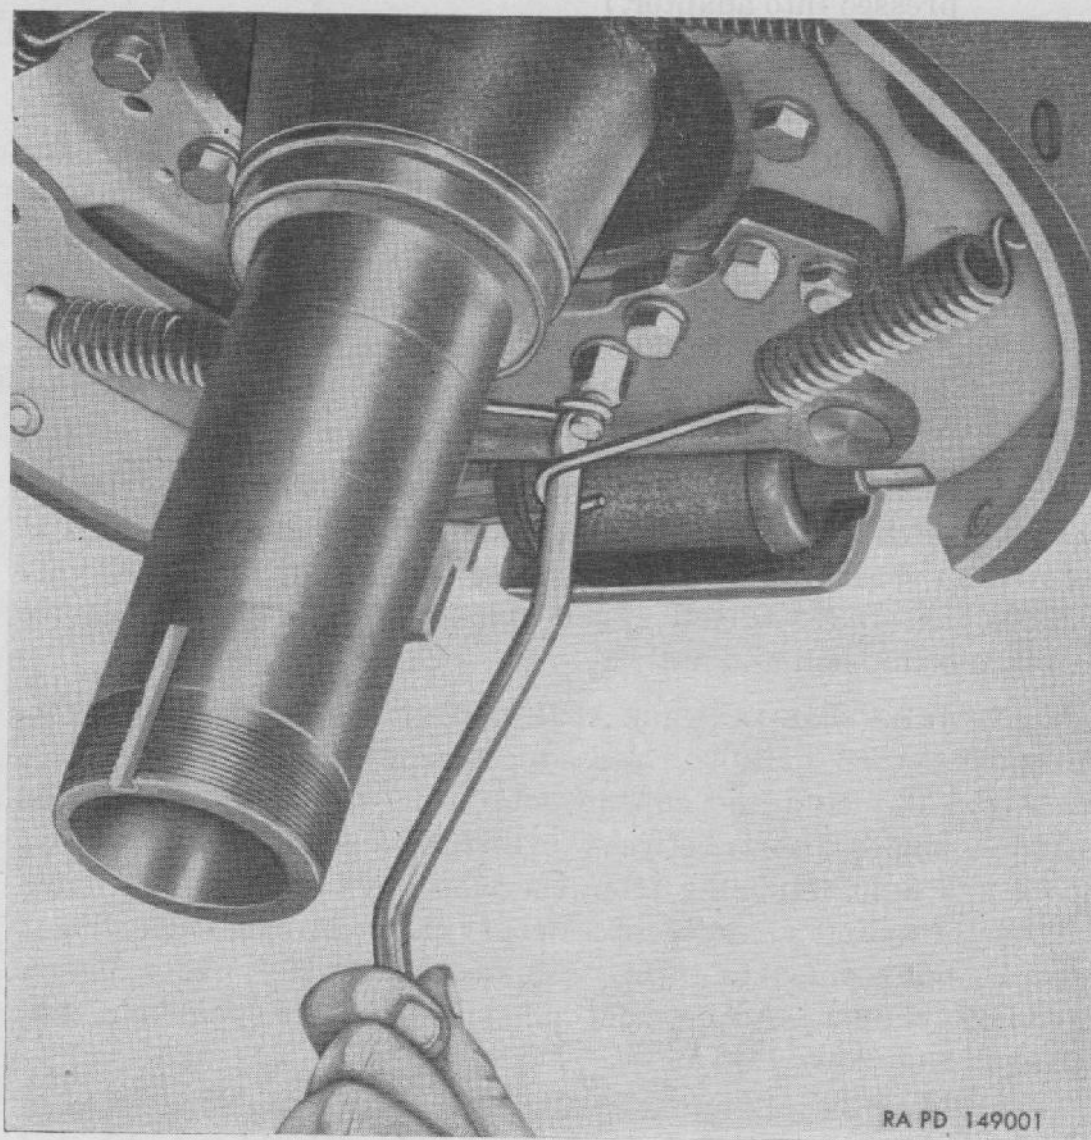

Figure 132. Installing brake shoe return springs using tool 7950060.
- (3) Install brake shoe return springs, installing end of each spring in brake shoe web, then hooking springs onto anchor studs using brake spring tool 7950060 (fig. 132).
- (4) Install hub and brake drum assembly (par. 245 or 246).
- (5) At front axle, install axle shaft drive flange (par. 198*b*) ; at rear axle, install axle shaft (par. 205*c*).
- (6) Install wheel (par. 239*b*). Adjust brake shoes (par. 220).